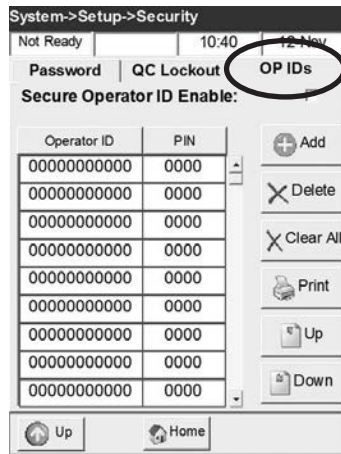

Fig. 3-34 Select OP IDs
- Select **<OP IDs>** in the **<Security>** menu (Fig. 3-34).